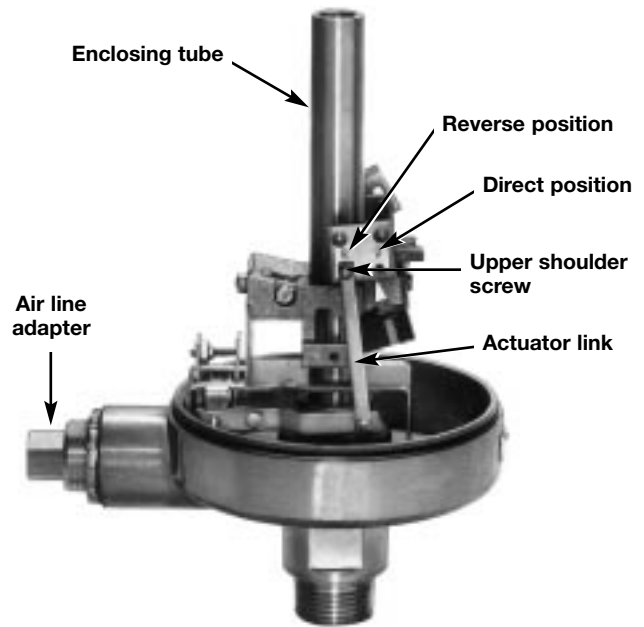

Figure 3
1. The action can be reversed by first removing the upper shoulder screw from the actuator link and moving it from the direct (D) position to the reverse (R); refer to Figure 3.